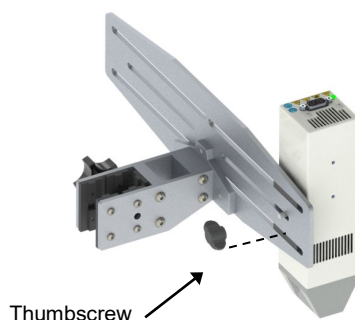

Figure 3. Attach the Bearing Pad to the Carriage
4. Attach the bearing pad to the carriage by aligning the pad's guides with the slots in the bracket, then securing it with the thumbscrew (Figure 3).